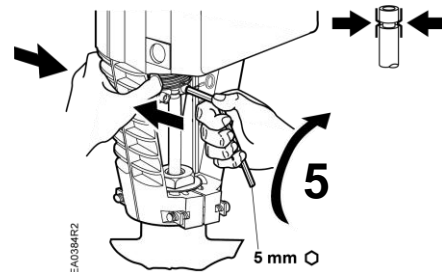

Figure 6.
**NOTE:** Hold the stem retainer in place as you tighten it around the valve stem. See Figure 6.